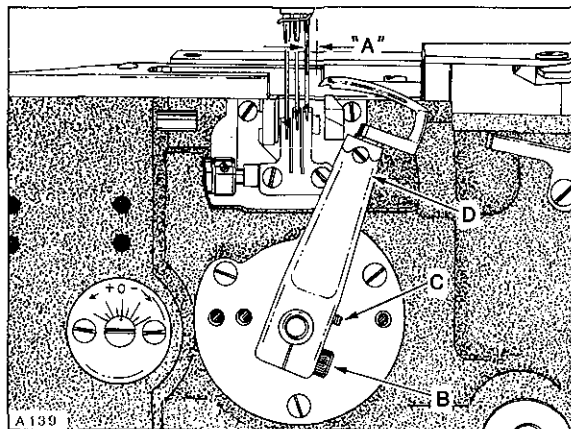

Fig. 9
If not previously done, insert a new set of needles. With looper at EXTREME right end of travel, distance from centerline of RIGHT needle to point of looper should be dimension ("A", Fig. 9); see CHART. Adjustment can be made by loosening screw (B) and turn screw (C) clockwise to increase looper gauge or counterclockwise to decrease. Apply pressure against upper portion of looper holder (D) to the left while making this adjustment and locking with screw (B). Applicable looper gauge can be used advantageously in making this adjustment. Looper must also be set so, as it travels to the left behind the needles, NOT to contact, but with a clearance of .002 - .004 inch (.051 - .102mm).